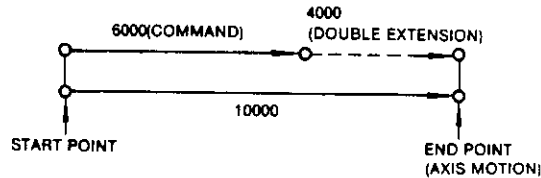

Fig 3 16
- (b) When the motion has been extended or reduced by offsetting in the preceding block, the starting point for the present block is offset. The overall move distance, however, is the same as in the above case. See Fig 3 17